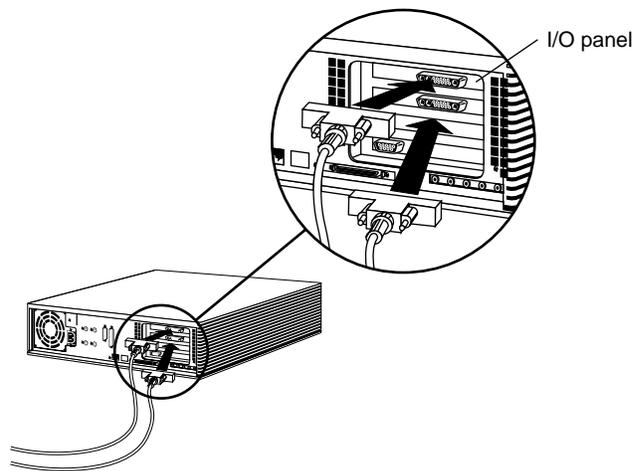

Figure 3-10 Identifying the I/O Panel on the Chassis
3. Connect the other end of the cable monitor connector on the back of the Indigo² chassis, as shown in Figure 3-10. Use the following tables to determine the correct connector on the I/O panel.